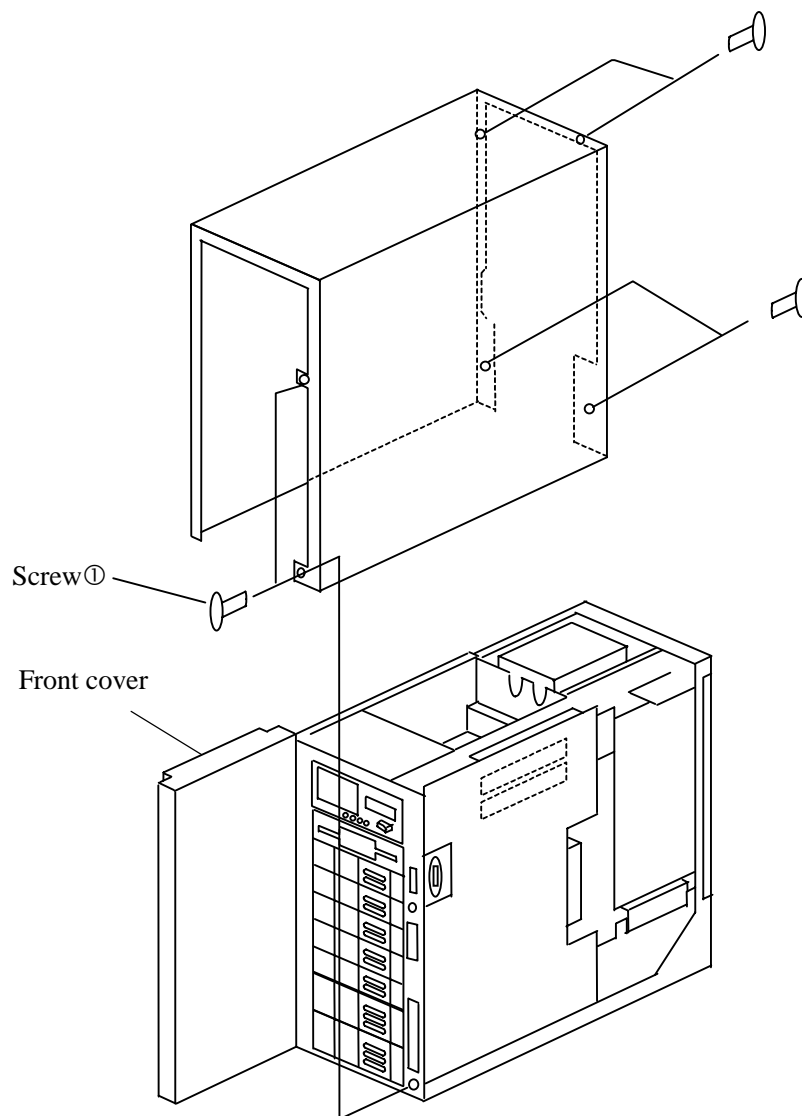

Figure 3.2 Removal/Reinstallation of the Front Cover
(1) Removal procedures (See Figure 3.2.)